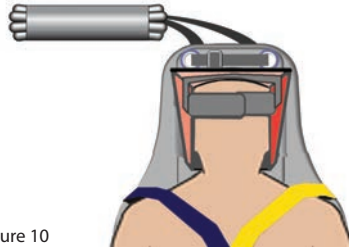

Figure 10
8. Fold up the three sides of the head hugger and secure using the velcro strap above the forehead. Secure the top panel to the sides with the velcro tabs. DO NOT use the chin strap if a collar is not used (as shown on Figure 10) as this can choke the casualty.